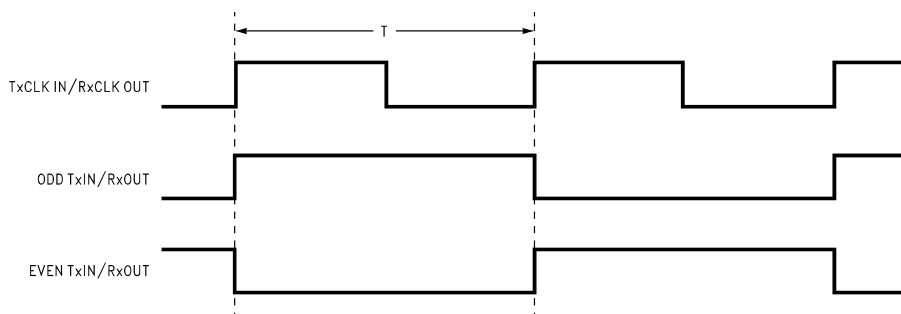

Figure 2. "Worst Case" Test Pattern
- Figure 2 and Figure 3 show a falling edge data strobe (TxCLK IN/RxCLK OUT).